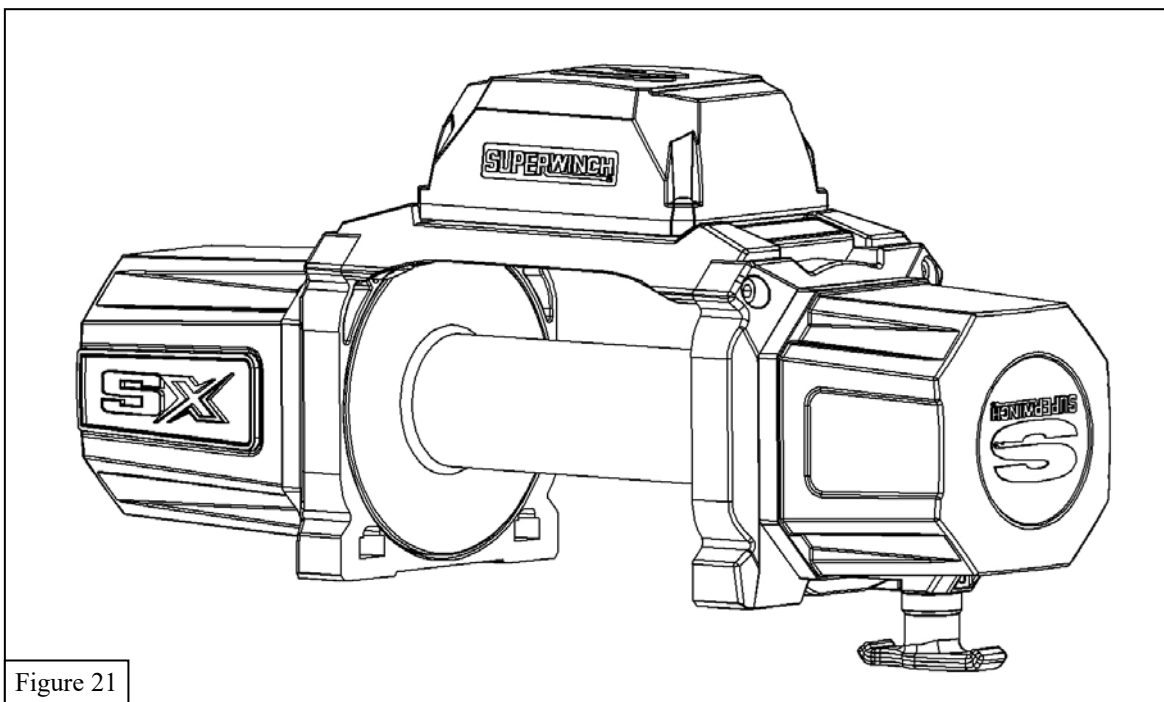

Figure 21
19. Rotate the gear box to the position shown in **Figure 21**.
20. Replace the (8) bolts that attach the gear box to the drum support in.